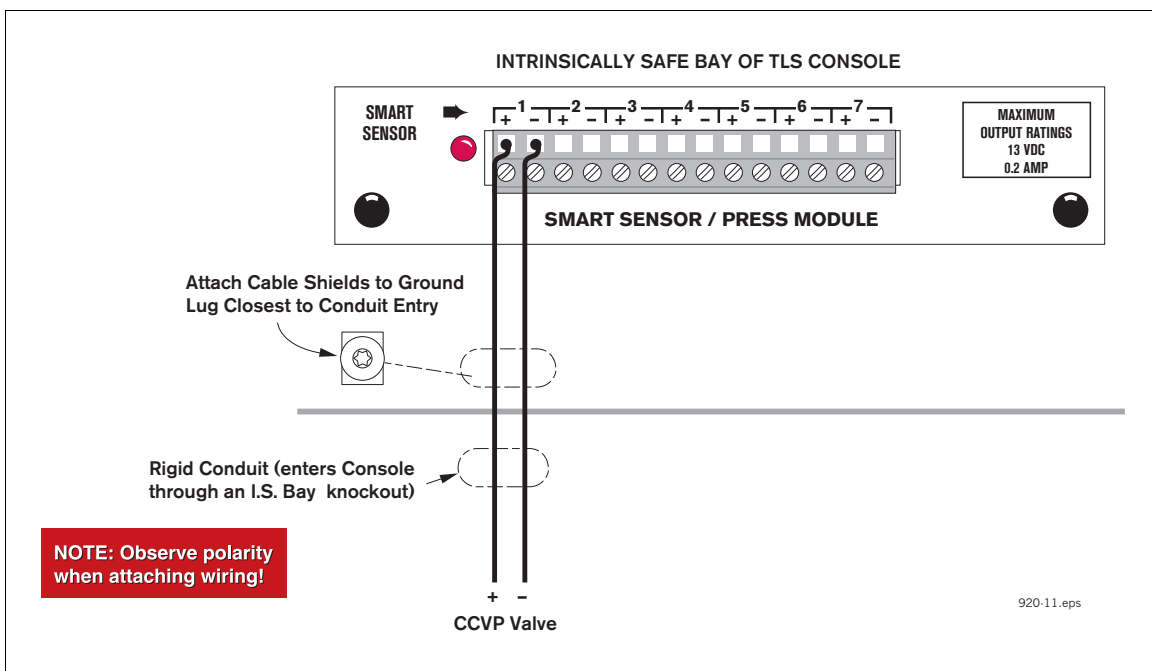

Figure 7. Attaching CCVP vapor valve wiring to TLS-350 console
13. Attach CCVP vapor valve field wiring to the smart sensor interface module in the TLS console as shown in Figure 7.